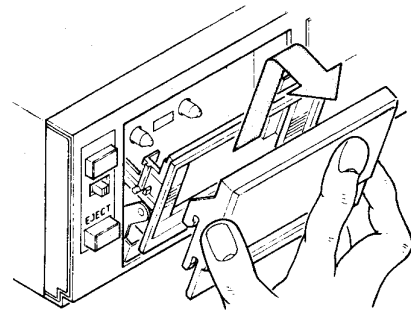

Fig. 17
2. Hold only the cover of the cassette compartment and pull it up. The compartment cover is removed from the front. (Fig. 17)